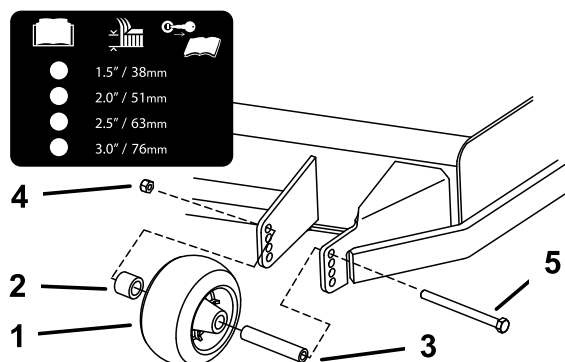

Figure 36
3. Adjust the anti-scalp rollers as shown in Figure 36.